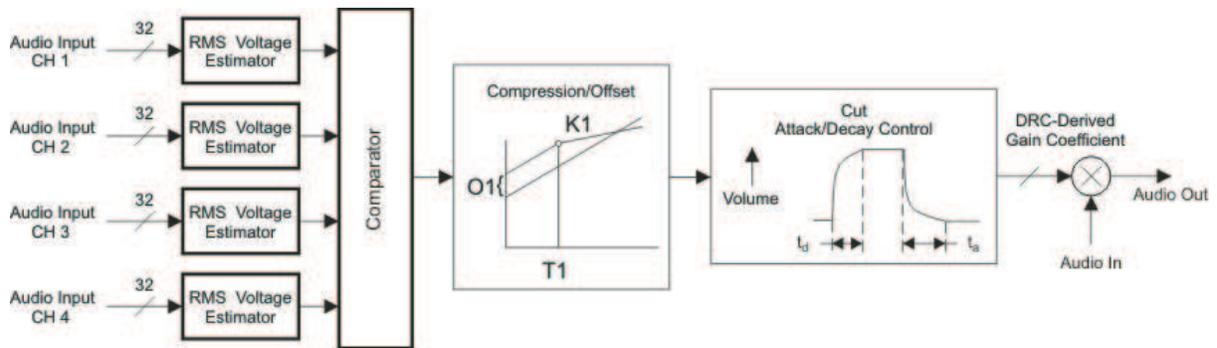

Figure 2. DRC Block Diagram
Figure 2 shows the three elements comprising the DRC: (1) an RMS estimator, (2) a compression coefficient computation engine, and (3) an attack/decay controller.